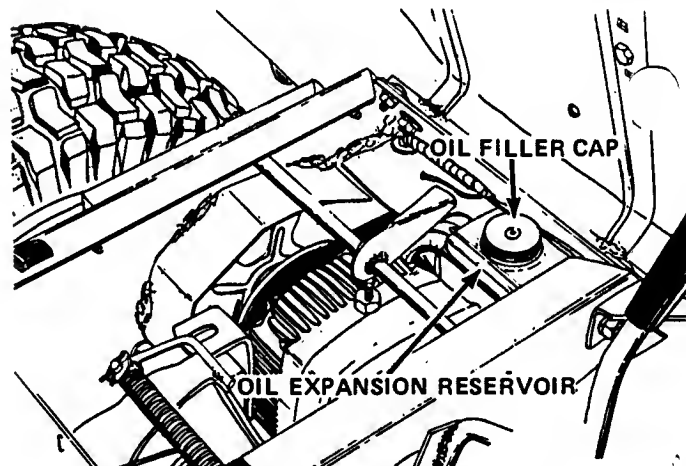

Figure 46
2. Raise the rear deck and remove the oil filler cap shown in Figure 46.